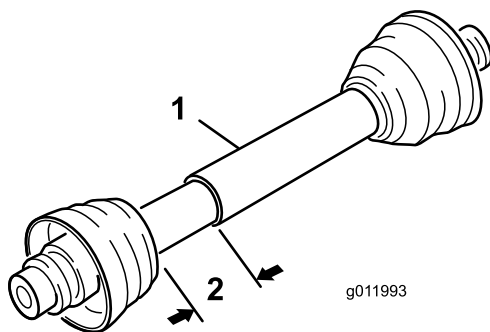

Figure 5
4. At it's shortest length, the two halves of the PTO shaft must have at least 1-1/2 inches (37 mm) of additional clearance to collapse (Figure 5). If the dimension in step 2 is not at least 1-1/2 inches (37 mm) greater than the dimension in step 3, the PTO shaft is too long; proceed to step 5. If there is enough clearance to allow the PTO shaft to collapse, proceed to step 10.